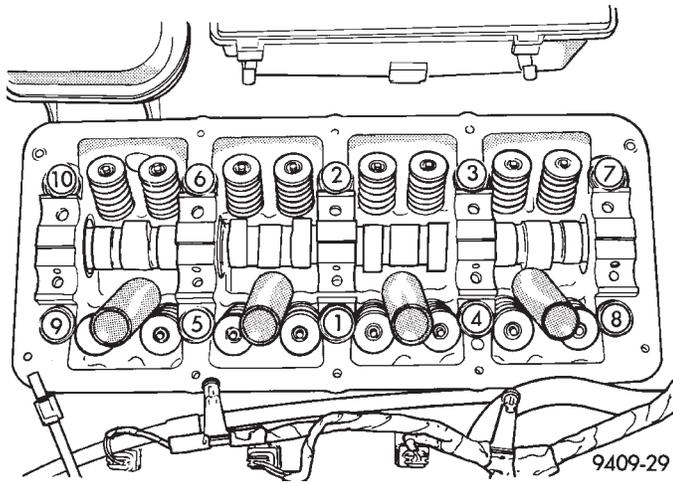

Fig. 23 Cylinder Head Tightening Sequence
(1) Before installing the bolts the threads should be oiled with engine oil. The 4 short bolts 110 mm (4.330 in.) are to be installed in positions 7, 8, 9, and 10 (Fig. 23).
(2) Tighten the cylinder head bolts in the sequence shown in (Fig. 23). Using the 4 step torque method, tighten according to the following values: